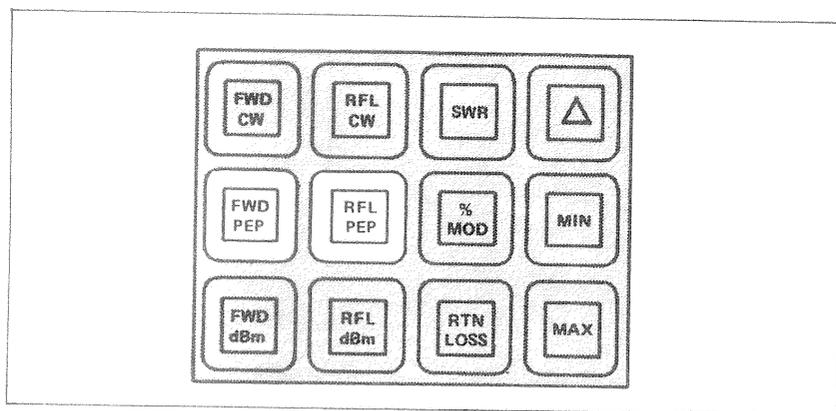

Figure 3-4. Peak Envelope Power (PEP).
d. Measuring Peak Envelope Power. (Figure 3-4). PEP power measurements are made in the same manner as the CW power readings described above, except that the **FWD PEP** and **RFL PEP** buttons are pressed and the readings are displayed directly as peak power.